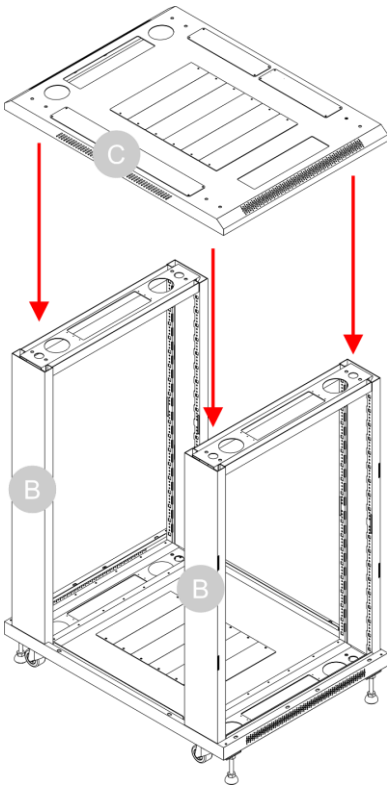

Fig. 27
- 11) Put the **top plate (C)** on top of the 2 **frames (B)**, as shown in Fig. 27.